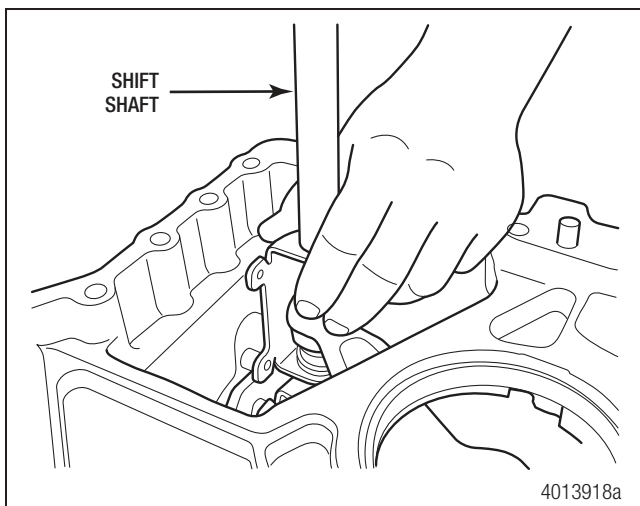

Figure 7.16
8. Align the fork assemblies as necessary and install the shift shaft until it bottoms out in the housing. Figure 7.16.